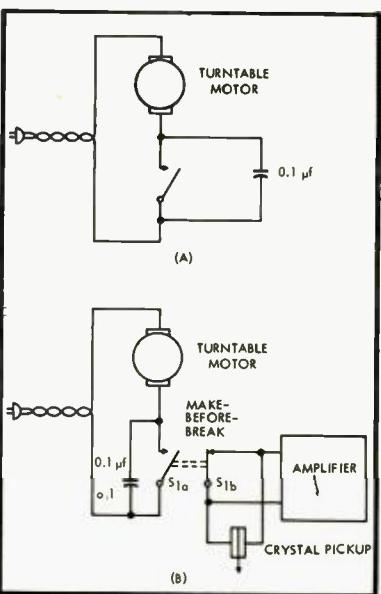

Fig. 1
If the player is a record which already has the shorting feature previously outlined, all that need be done is wire the a.c. circuit as shown at (A) in Fig. 1. If, however, it is a manual player or a changer lacking this feature, the schematic of (B) should be followed. Since it may be difficult to obtain a switch which will operate like S_{1a} - S_{1b} , it may be necessary to resort to using two separate switches operated in the prescribed manner; however, it might be somewhat annoying to have to fuss with two switches when your mind is on listening rather than tinkering.
Values have been published for the new standard record curve (RIAA) to the nearest millibel.¹ A straight line between the extremes at 30 and 15,000 cps has a slope of very nearly 4 db per octave and if this line is raised a trifle it does not depart more than 1.6 db from the RIAA at any point (*Fig. 1*). Although it must be seriously doubted whether the most critical observer could distinguish between the two, the point is largely of academic interest because, as it happens, an amplifier with a slope of 4 db per octave throughout the entire band would be more difficult to design